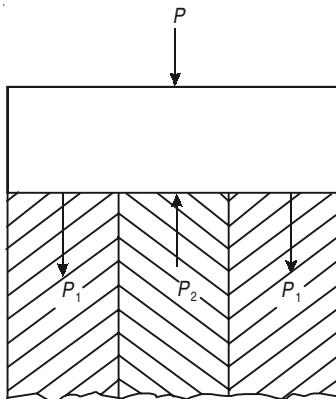

Fig. 1.30
In addition to rise in temperature t , if the bar is subjected to an external load P (Fig. 1.30) material (2) will suffer further compression and